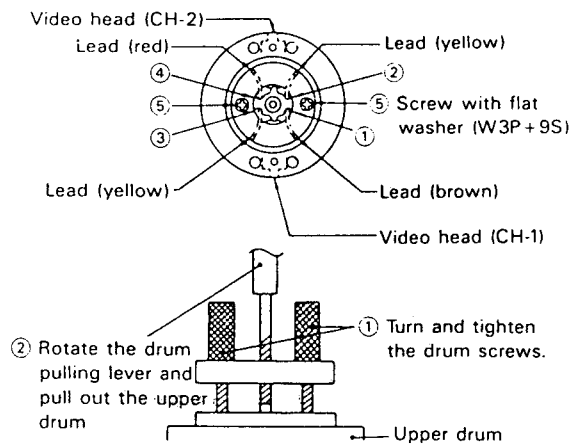

Figure 1-28.
● **Replacement (See Fig. 1-28)**
1. Set a new drum for replacement, as shown in Fig. 1-28, and position the leads properly.